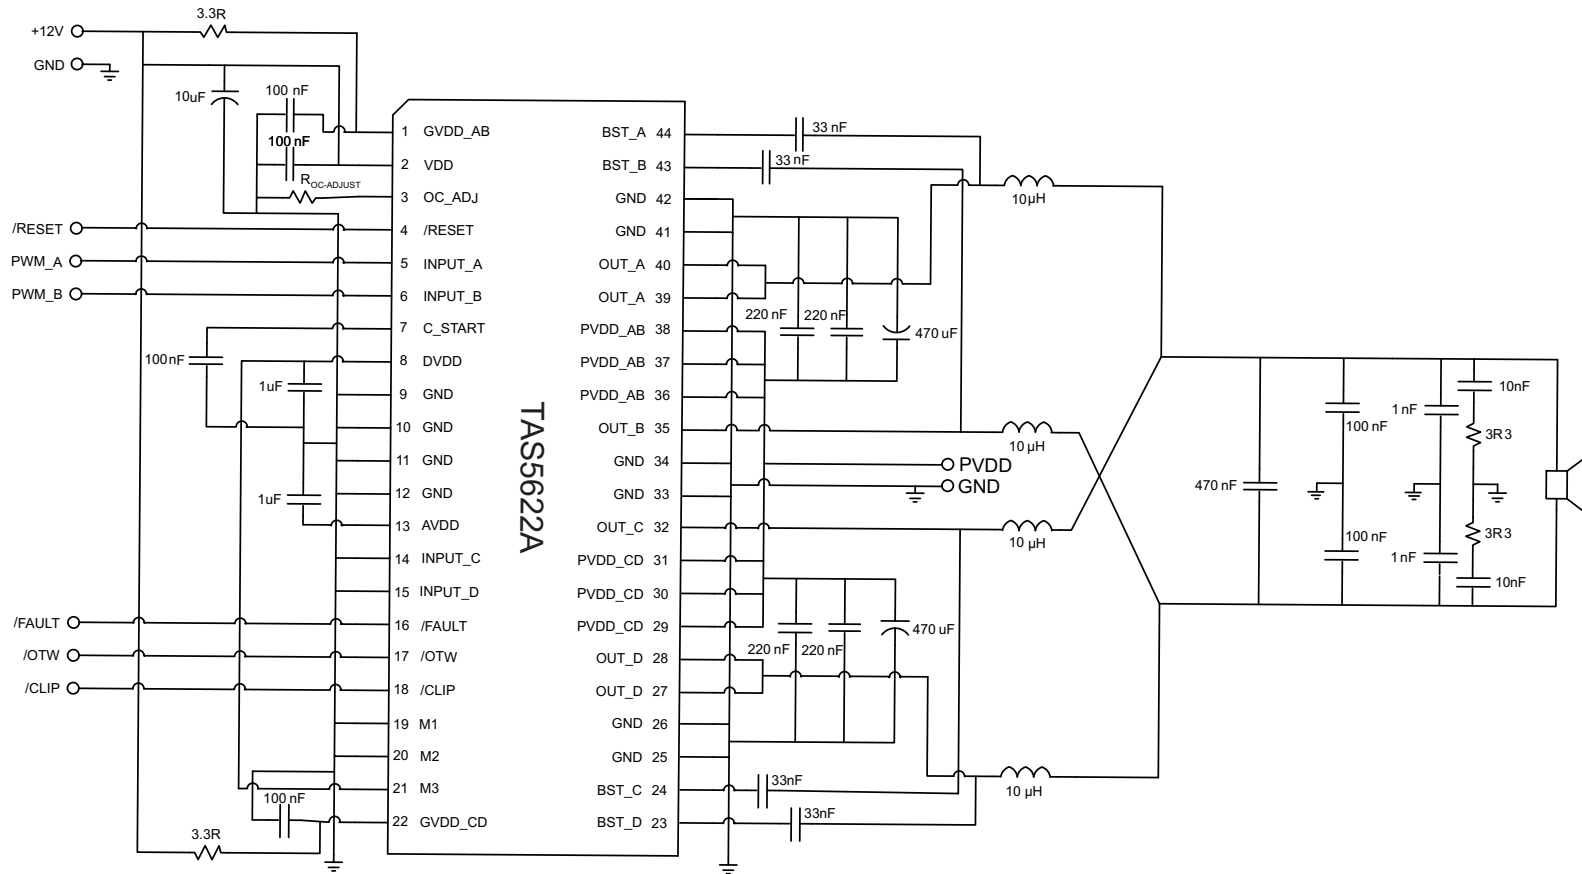

Figure 22. Typical Differential (2N) PBTl Application With AD Modulation Filter
See Figure 22 for application schematic. In this application, one differential PWM input is used with AD modulation from the PWM modulator such as the TAS5558. AD modulation scheme is defined as PWM(+) is opposite polarity from PWM(-). The output PBTL configuration is often used to drive lower impedance load such as a subwoofer.
- Pins 27, 28, 32, 35, 39, 40 - Output pins from half-bridges A, B, C, and D. Connect appropriate bootstrap capacitors and differential LC filter as shown in Figure 22.
- Pins 29, 30, 31, 36, 37, 38 - Power supply pins to half-bridges A, B, C, and D. A and B form a full-bridge and C and D form another full-bridge. A 470-μF bulk capacitor is recommended for each full-bridge power pins. Two 0.22-μF decoupling capacitors are placed on each full-bridge power pins. See Figure 22 for details.